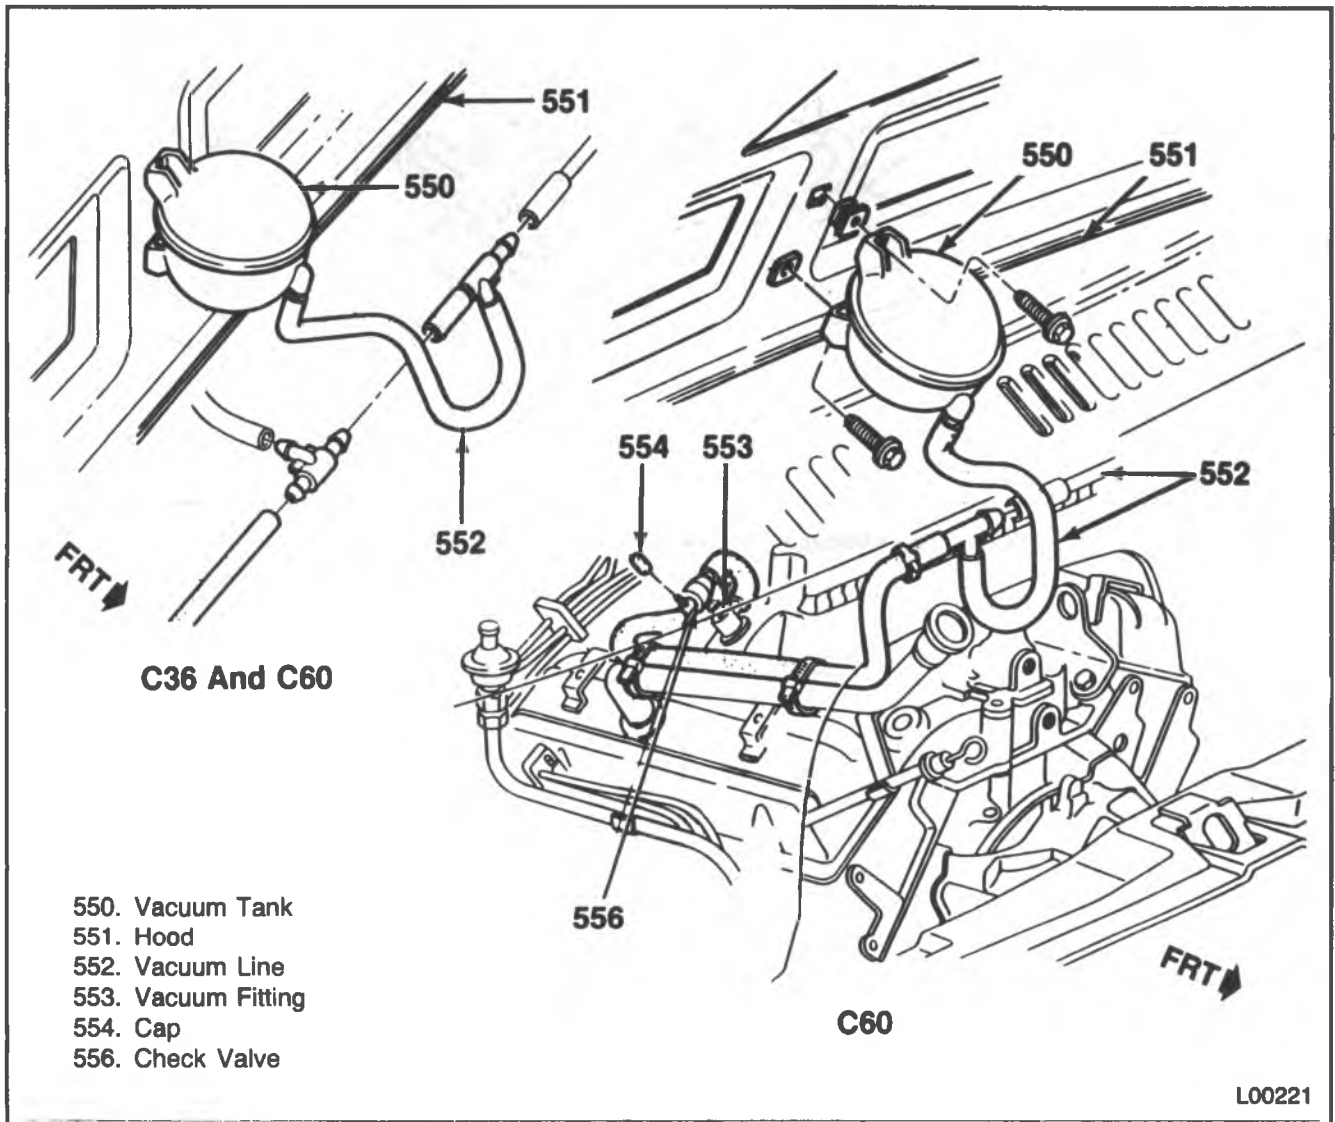

Figure 69 — Vacuum Tank Assembly — 4.3L Engine
Remove or Disconnect (Figures 69, 70, 71 and 72)
Install or Connect (Figures 69, 70, 71 and 72)
1. 4.3L Engine (figure 69).